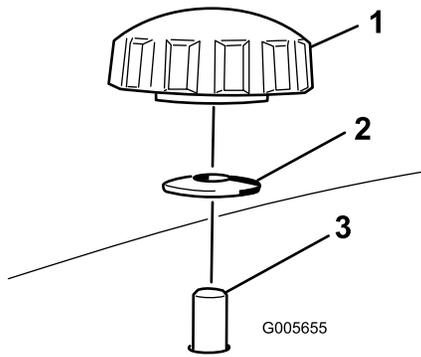
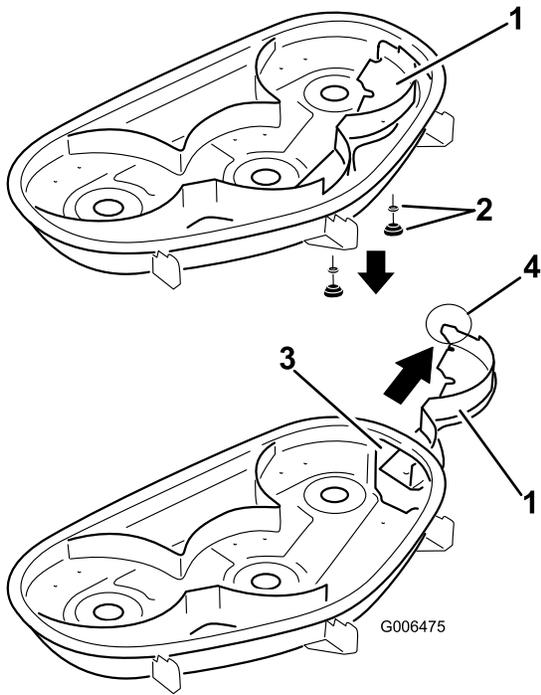

Figure 20
Figure 21
4. Remove the 2 knobs and curved washers that secure the right baffle to the mower as shown in Figure 20.
5. Remove the right baffle and lower the grass deflector over the discharge opening as shown in Figure 21 and Figure 20.
4. Slide the right baffle through the discharge opening and secure it using 2 knobs and curved washers (cupped side facing the mower) as shown in Figure 20 and Figure 21.